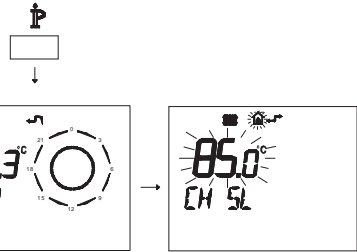

Fig. 7.21
- Press button  $\mathbb{P}$  for more than 3 seconds to enter in *INFO* (Fig. 7.21) mode.